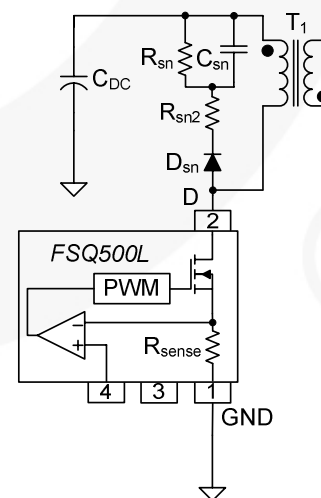
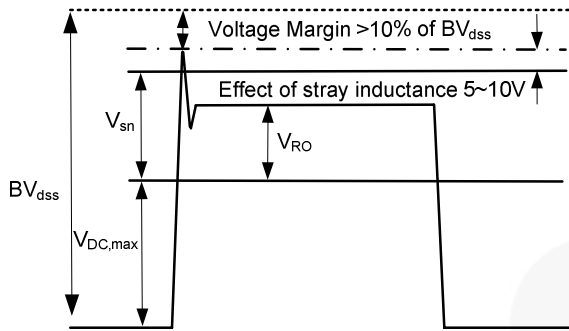

Figure 11. Primary-Side RCD Snubber Circuit
Figure 12. MOSFET Drain Voltage Waveform
The RCD snubber circuit and MOSFET drain voltage waveforms are shown in Figure 11 and Figure 12, respectively. The RCD snubber circuit absorbs the current in the leakage inductor by turning on the snubber diode (D_{sn}) when V_{DS} exceeds $V_{in}+nV_O$. It is assumed that the snubber capacitance is large enough that its voltage does not change during one switching period. The R_{sn2} can reduce the spike damping wave and affect EMI.
- **3** should be a point-discharger route to bypass the static electricity energy. As shown in Figure 12, it is suggested to map out this discharge route.